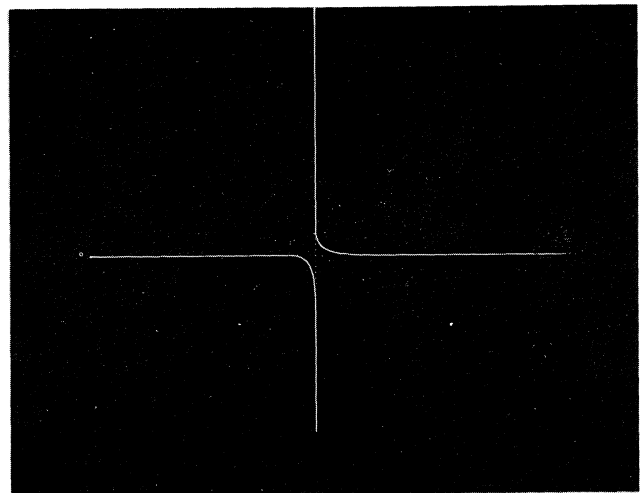

Fig. 4-11. Vector focus Display.
a. With the LOCAL/LINE switch at LOCAL and the crosshair cursor displayed, enter CTRL SHIFT M to put the Terminal in a pseudo vector mode. (See Fig. 4-11.) Note that the Terminal will not produce the display shown in Fig. 4-11 unless TSTROBE is connected to CSTROBE as explained in the Preliminary Procedure.